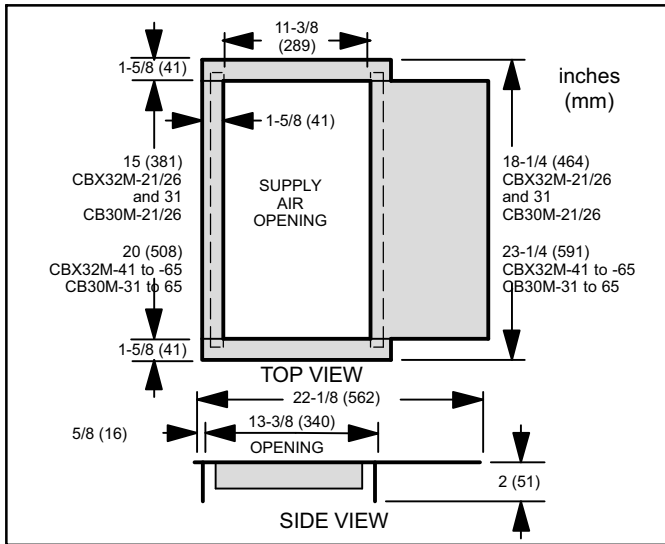

Figure 7. Downflow Combustible Base Dimensions
1. Cut an appropriately sized opening for combustible base as illustrated figure 7.